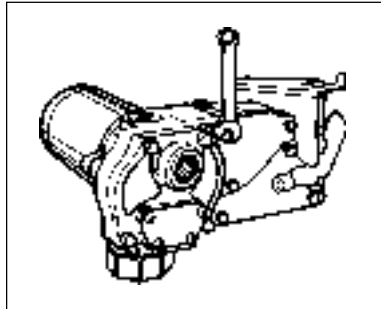

Figure 12
2. Remove the electrical coverplate from the pump housing. (Figure 12)